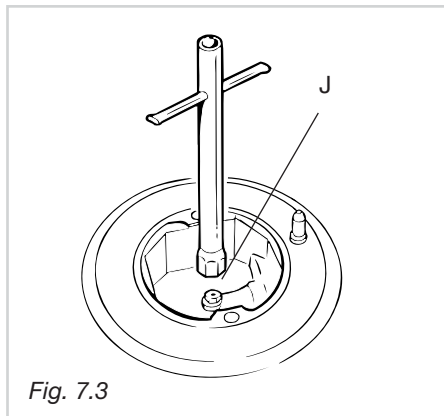

Fig. 7.3
- ✓ Using a wrench substitute the nozzle injectors "J" (Fig. 7.3 - 7.4) with those most suitable for the kind of gas for which it is to be used.